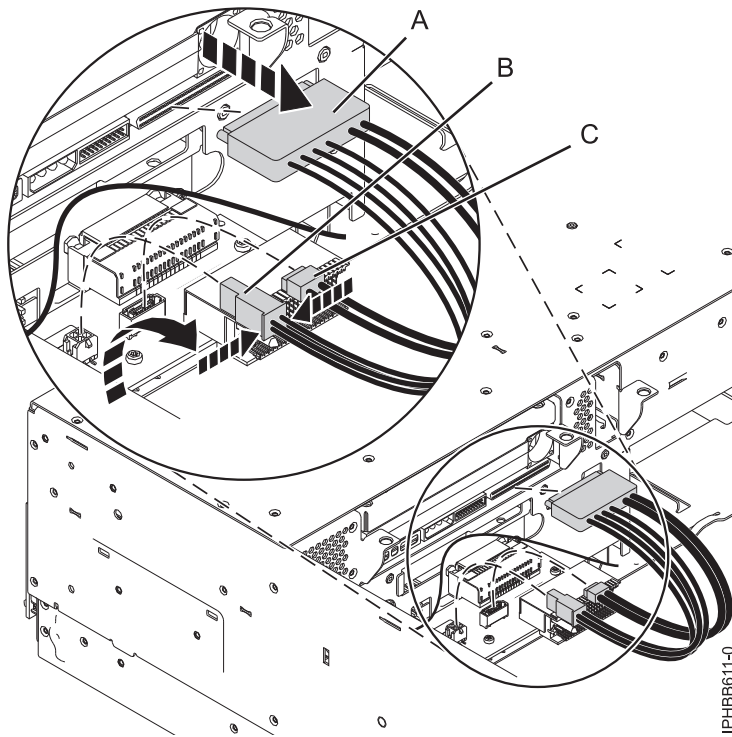

Figure 9. Disconnecting the media device cables from the disk drive backplane
10. Disconnect the cables from the back of the disk drive backplane, as shown in Figure 9. If you have connected an external SAS cable, ensure that you disconnect the SAS cable from the disk drive backplane. For more information about external SAS port, refer to Installing the external SAS port on a model 8233-E8B or 8236-E8C.